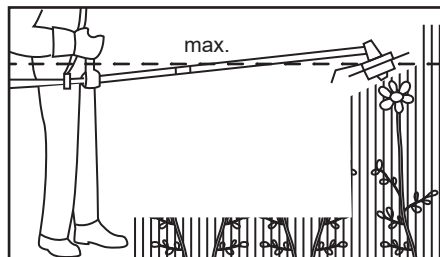

Fig. 19
4. Never hold the cutting head higher than your hip (Fig. 19), the higher you hold the cutting head will increase the risk of objects being thrown.